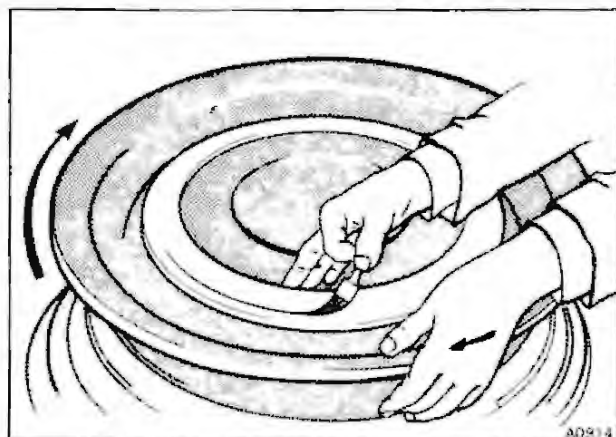

Fig. 5 Applying stripes/coachlines to the wheel painted rings
- 6 Hold the stripping/lining brush between the thumb and forefinger, placing the remaining fingers on the inner edge of the wheel painted ring (see fig. 5). Slowly spin the turntable in a clockwise direction and lower the lining brush tip onto the painted ring following the chalk or pencil marks. It is essential to keep the lining brush absolutely rigid whilst holding the remaining fingers to the inside of the painted ring. Continue spinning the turntable until a complete strip/line around the painted ring has been established.